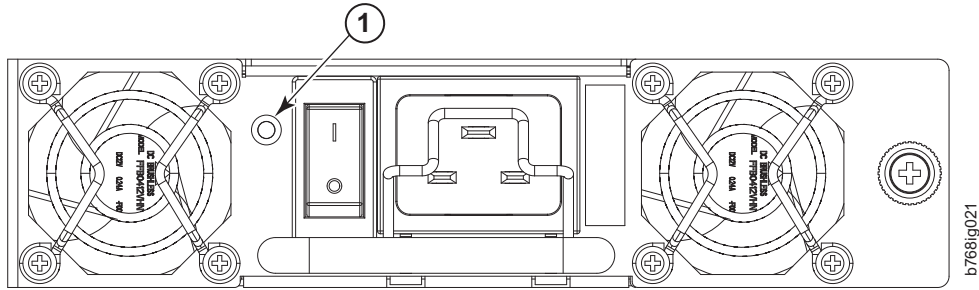

Figure 20. Power supply LEDs
1. Check the LED indicator on the power supply (see Figure 20 on page 62). The LED patterns may temporarily change during POST and other diagnostic tests; for information about how to interpret the LED patterns, see Table 9 on page 62.